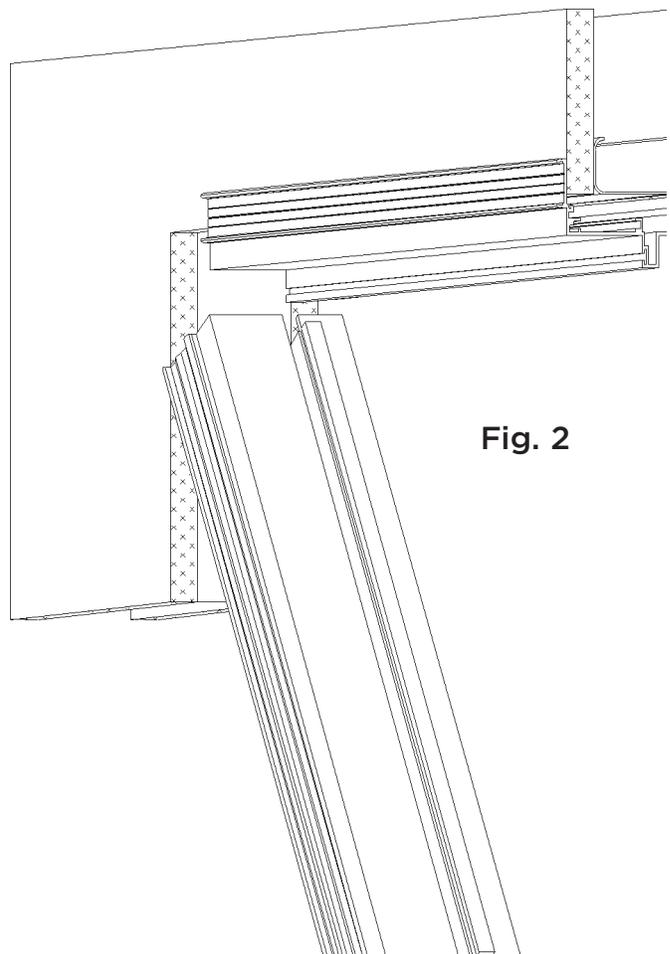

Fig. 2
5. Hold jambs at an angle and slip the upper portion over the wall. Push upward to engage header, then push the rest of the jamb over the wall. (Fig. 2)